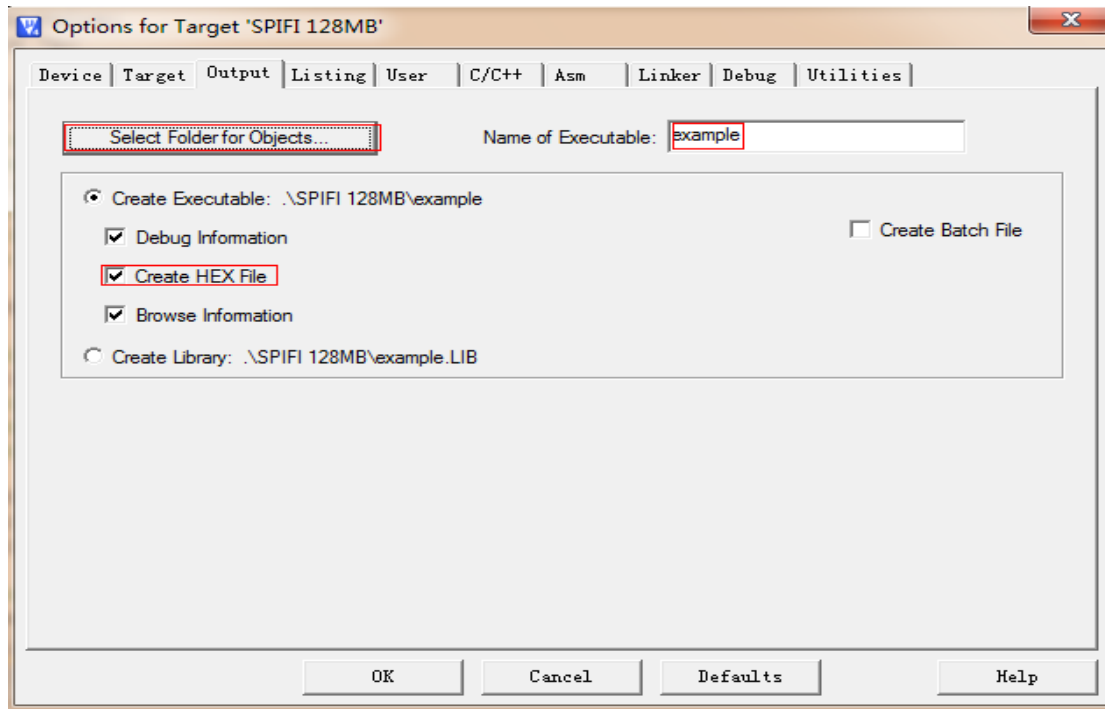

Figure 3-4
(3) It is noted to select object file generated (include intermediate file) and execute name in “Output” table. Refer to figure 3-4: